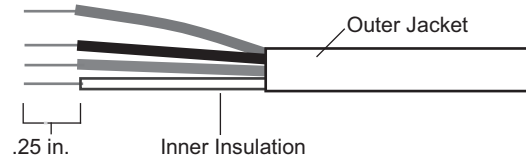

Fig. 12 — Rnet Cable Wire
2. Strip about 1/4 in. of the inner insulation from each wire (see Fig. 12).